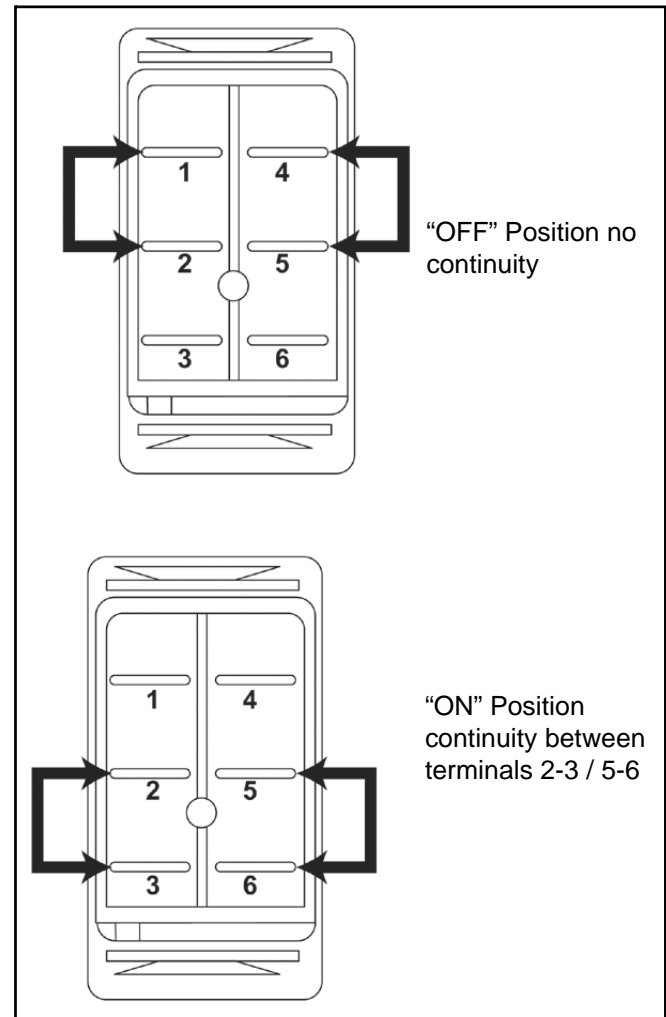

Figure 35
2. Using a VOM or test lamp, test the continuity of the terminals, using the diagrams below (Figure 35).